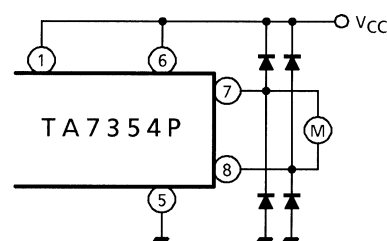

Fig. 4
- (3) If the back electromotive pulse generated in output coil is so strong. Internally connected back electromotive suppression diode may be damaged by this pulse. In such a case connect a additional diode between each output to VCC. (See Fig.4)